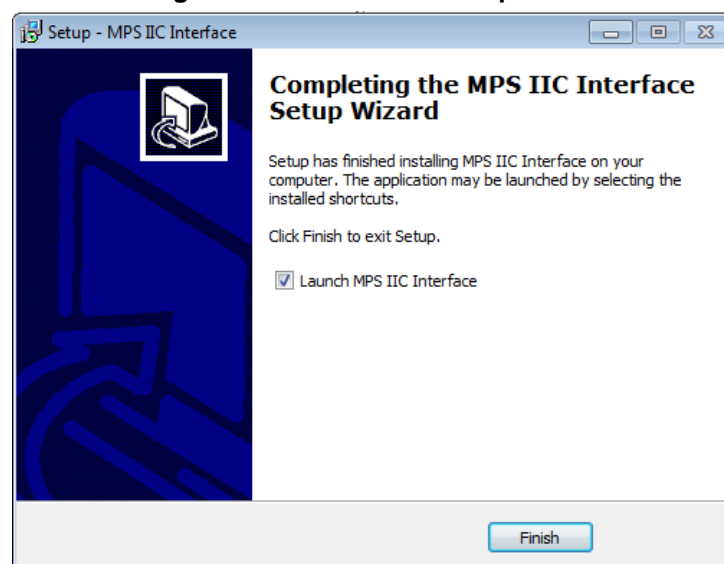

Figure 5: MPS I²C GUI Set-Up Success
5. Wait for the status screen to verify that installation is complete (see Figure 5).